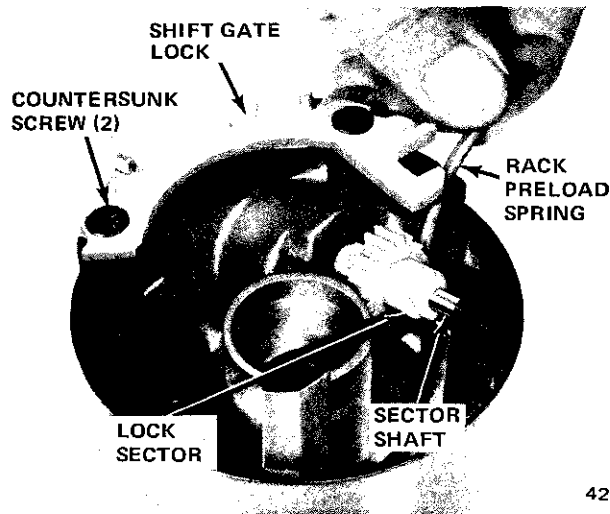

Fig. 2J-29 Housing Components
(26) Remove lock bolt and lock rack and remove rack preload spring (fig. 2J-29).